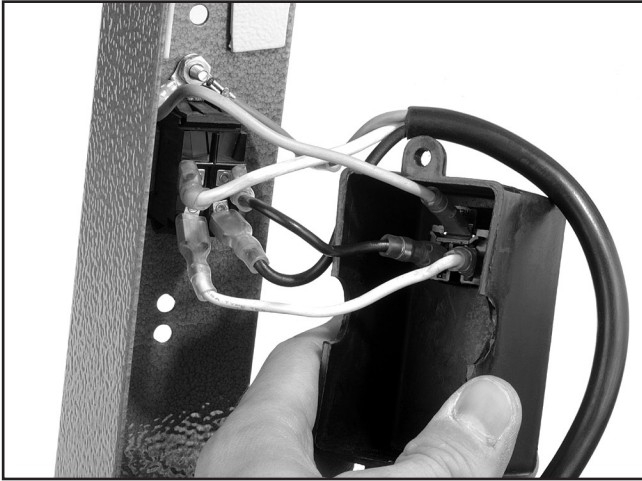

Figure 15. Securing the power wires to the switch.
5. Attach the black and white power wires to the back of the switch (**Figure 15**), at the clips labeled "B" and "W."